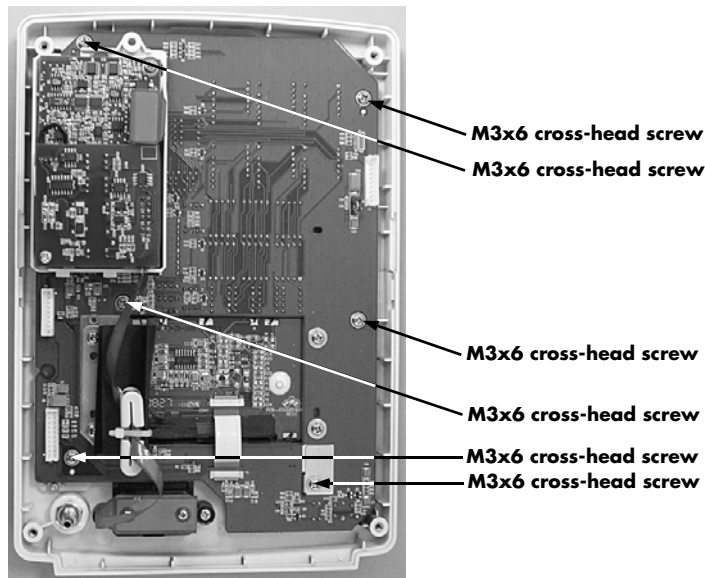

FIGURE 4-6 Remove six (6) M3x6 cross-head screws.
1. Remove the six (6) M3x6 cross-head screws (as shown in Figure 4-6), and remove the key board.